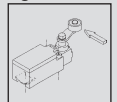

Fig. 2
- Additionally secured by guide plate for lateral approach forces (Fig. 2 and page 69)